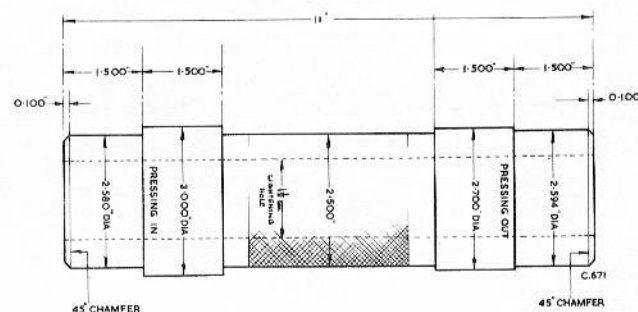
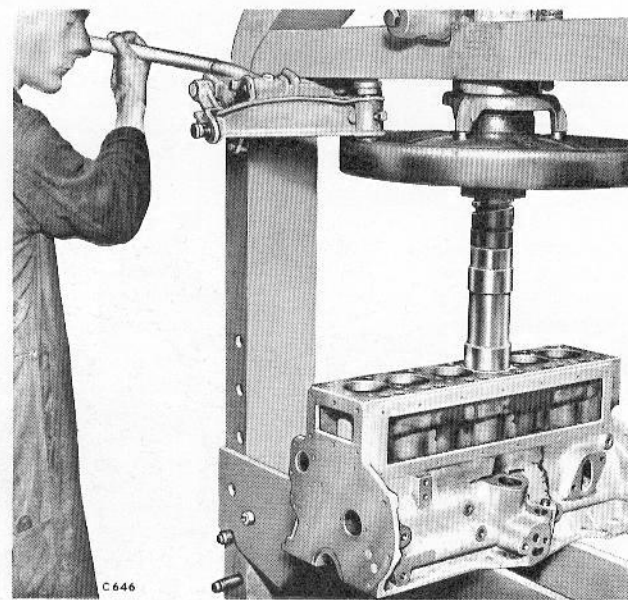

Fig. 9. Spigot for removing liners.
Fig. 10. Removing and refitting cylinder liners.
- Using a hand press only and a special spigot Fig. 9 as illustrated in Fig.10
Lightly oil the cylinder bore and the external surface of the liner and with the assembly beneath the ram of a press capable of exerting the load given in General Data, press the liner steadily into the cylinder bore until level with the cylinder block face. See Fig.10